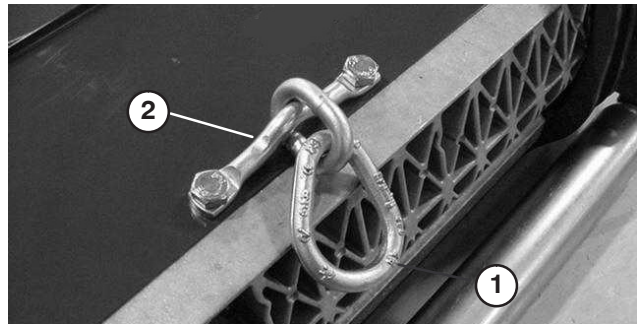

Figure 3
- Install chain link to top of cutting unit with mounting bracket and (2) capscrews. Torque capscrews to 25–30 ft-lbs. (34–40 N·m). Large end of link to hook on traction unit suspension (Fig. 3).